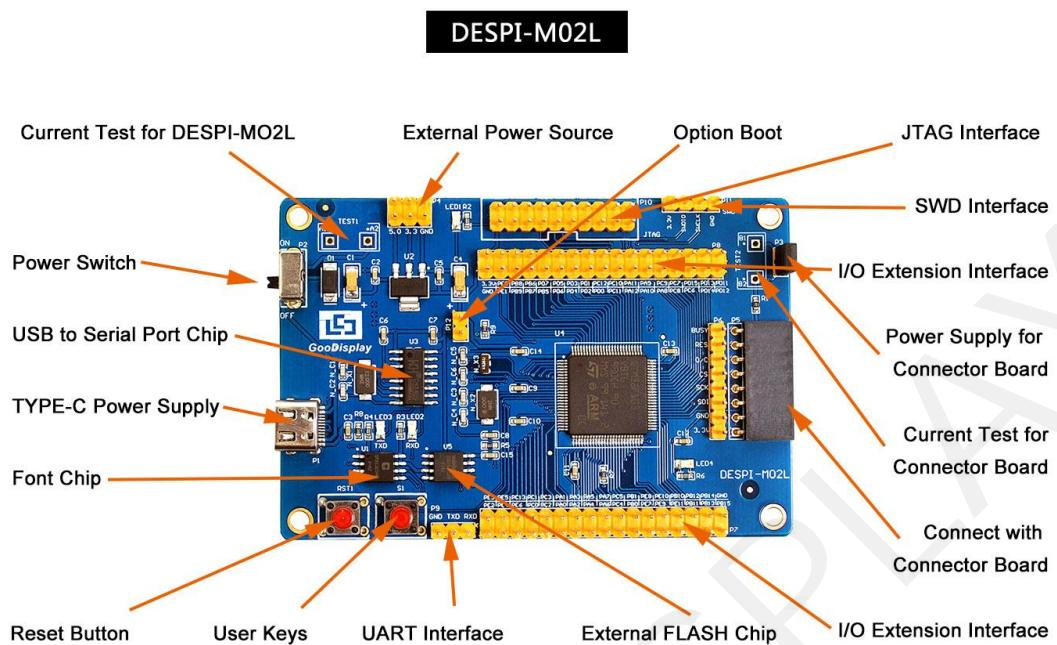
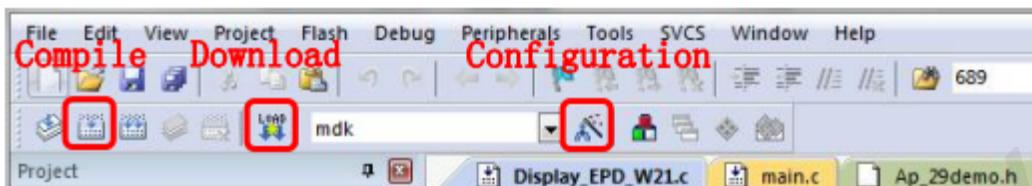

Figure 1: DESPI-M02L
Figure 11 :Keil4 tool bar
3) The Keil4 toolbar is shown in Figure 11. Please click  at the first time using the simulator and a box like Figure 1 2 will pop up. Choose the simulator model of yours in the "Debug" bar, and click "OK to confirm.
5)Click  in the toolbar in Figure 1 1 to compile.
6)Click  in the toolbar in Figure 11 to download.